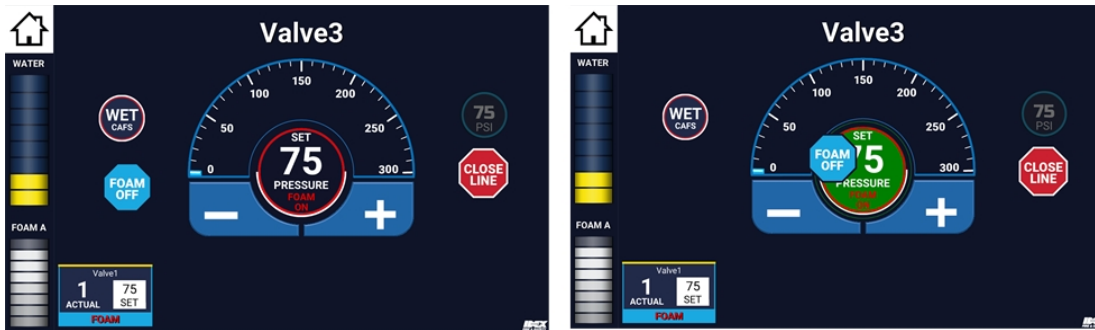

Figure 22. FOAM OFF Bubble Swipe Sequence
- B. On Valve X screen (discharge valve control screen), swipe FOAM OFF bubble to target (center of widget). See Figure 22.